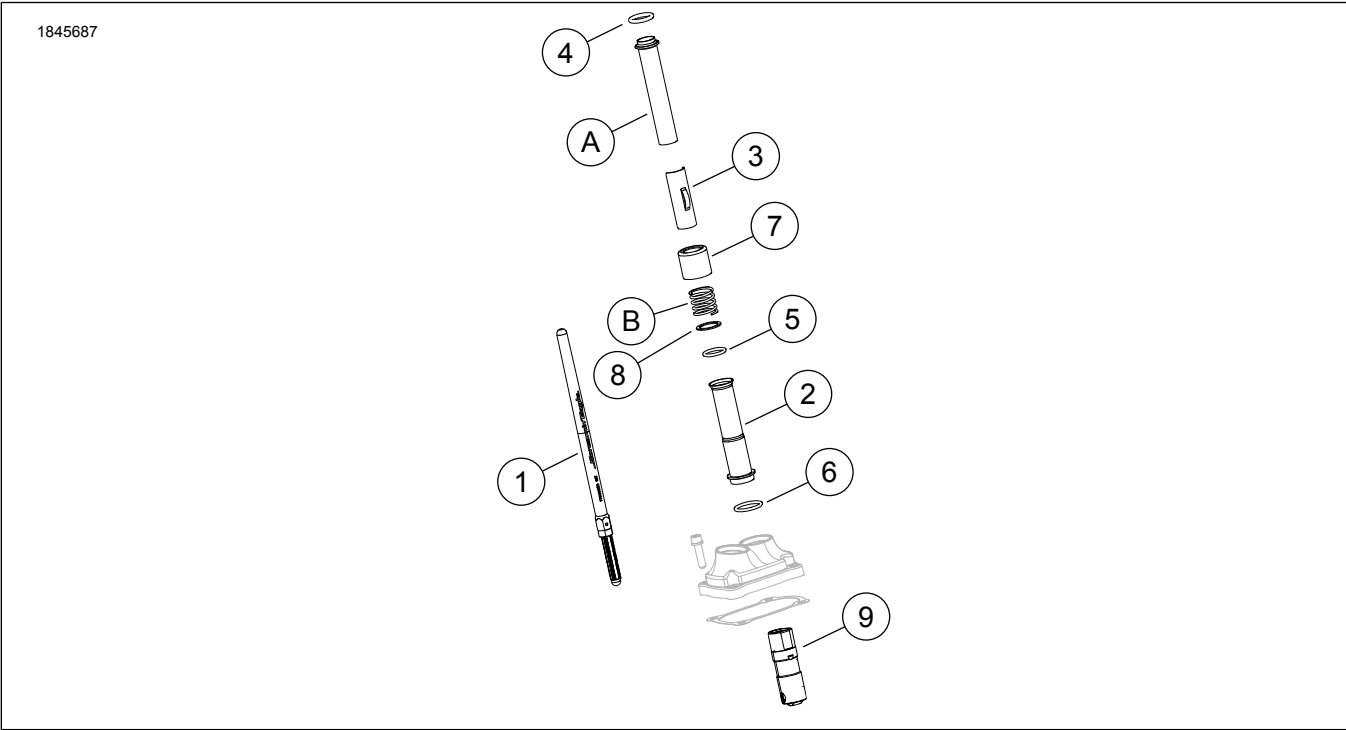
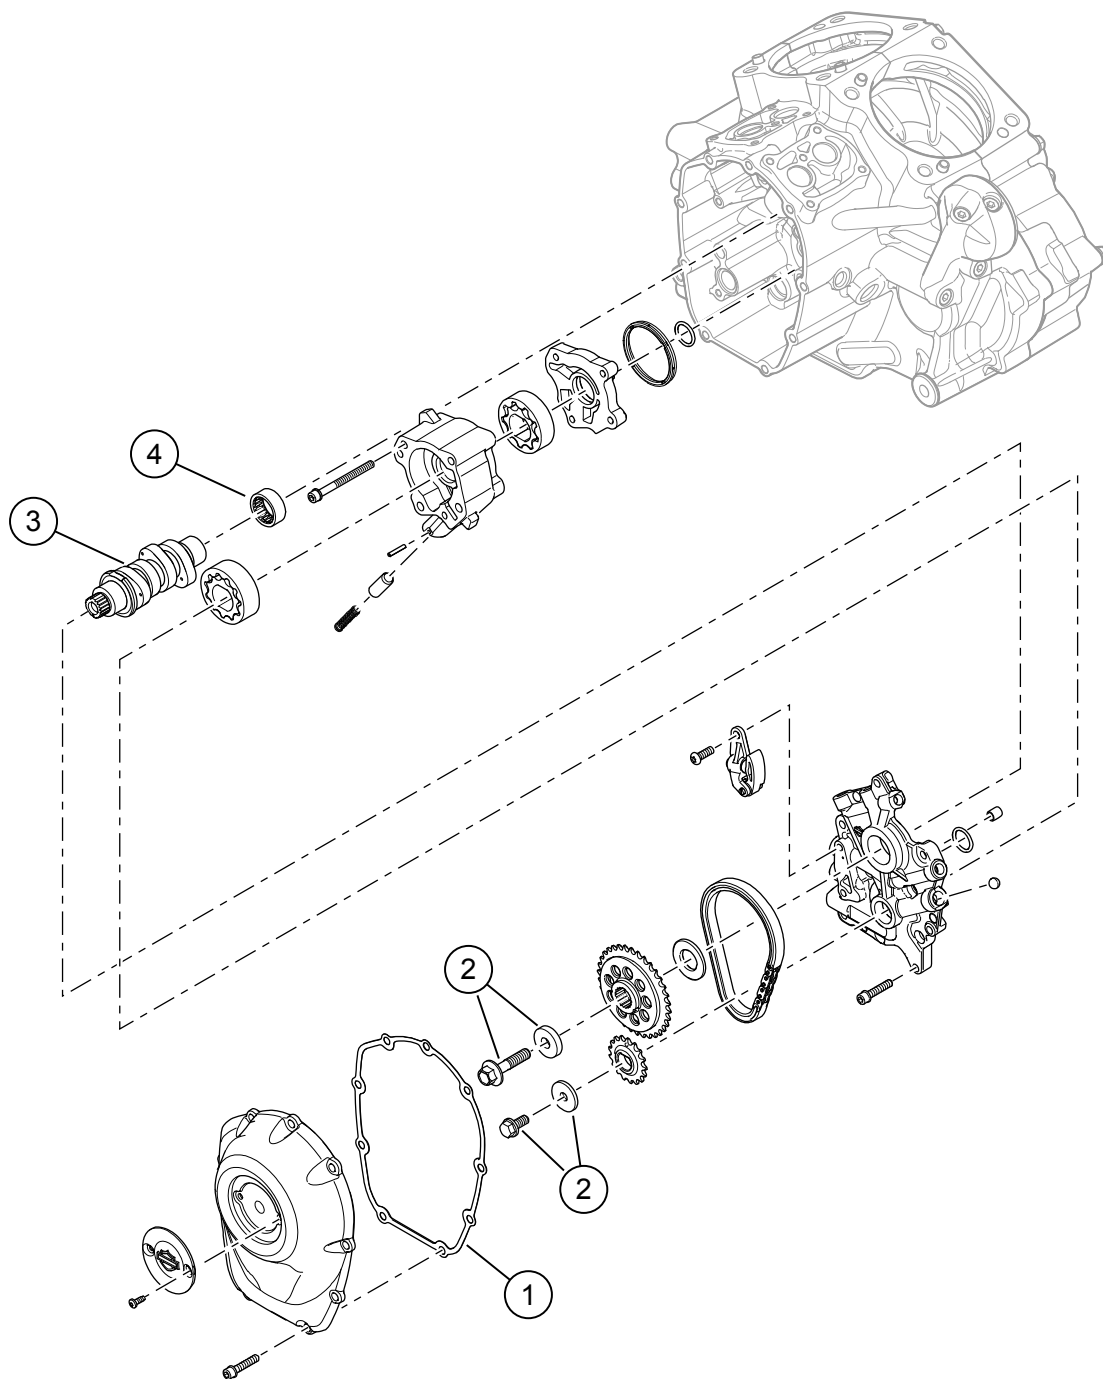

Figure 1. Kit Contents: Screamin' Eagle Milwaukee-Eight Stage 2 Kit
Figure 2. Kit Contents: Screamin' Eagle Milwaukee-Eight Stage 2 Kit
See Figure 1 and Figure 2.
1. See Figure 2. Install oil pump. See service manual.